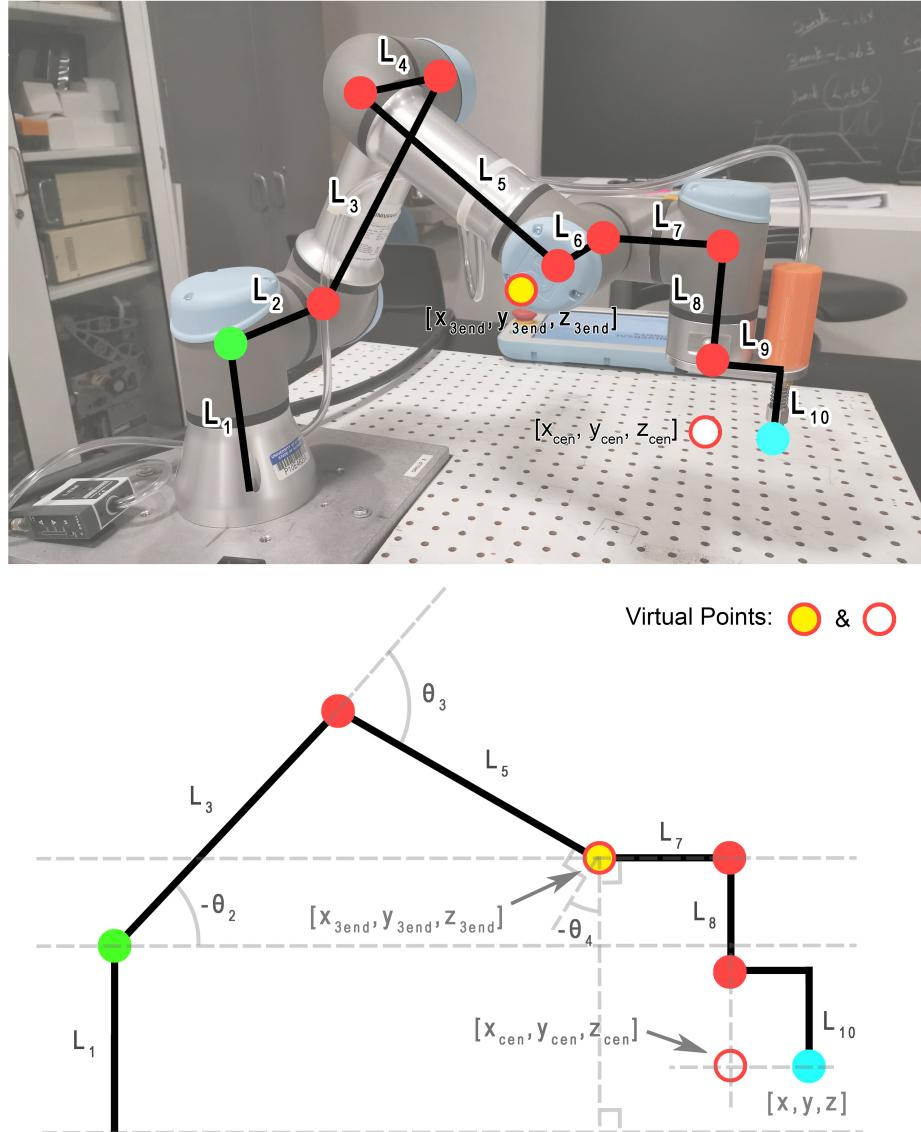

Figure 4.2: Side View Stick Pictorial of UR3.
1. $x_{cen}, y_{cen}, z_{cen}$, given yaw desired in the world frame and the desired x,y,z of the suction cup. The suction cup aluminum plate (link 9) has a length of 0.0535 meters from the center line of the suction cup to the center line of joint 6. Remember that this aluminum plate should always be parallel to the world's x,y plane. See Figure 4.2.
4. $x_{3end}, y_{3end}, z_{3end}$ is a point off of the UR3 but lies along the link 6 axis, Figure 4.1. For example if $\theta_1 = 0^\circ$ then $y_{3end} = 0$. If $\theta_1 = 90^\circ$ then $x_{3end} = 0$. First use the top down view of the UR3 to find x_{3end}, y_{3end} . One way is to choose an appropriate coordinate frame at x_{cen}, y_{cen} and find the translation matrix that rotates and translates that coordinate frame to the base frame. Then find the vector in the coordinate frame you chose at x_{cen}, y_{cen} that points from x_{cen}, y_{cen} to x_{3end}, y_{3end} . Simply multiply this vector by your translation matrix to find the world coordinates at x_{3end}, y_{3end} . For z_{3end} create a view of the UR3, Figure 4.2, that is a projection of the robot onto a plane perpendicular to the x,y world frame and rotated by θ_1 about the base frame. Call this the side view. Looking at this side view you will see that z_{3end} is z_{cen} offset by a constant.
5. θ_2, θ_3 and θ_4 , by using the same side view drawing just drawn above to find z_{3end} , Figure 4.2. Now that $x_{3end}, y_{3end}, z_{3end}$ have been found use sine, cosine and the cosine rule to solve for partial angles that make up θ_2, θ_3 and θ_4 . Hint: In this side view, a parallel to the base construction line through joint 2 and a parallel to the base construction line through joint 4 are helpful in finding the needed partial angles.